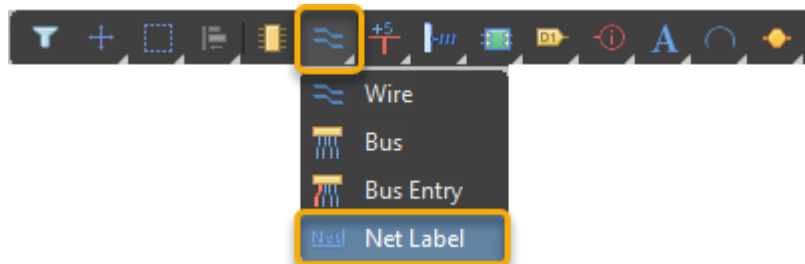

Figure 19. Net Label
15. Now place **Net Labels** using the **Active Bar** (or by going to **Place » Net Label** or use the shortcuts **P » N**), see *Figure 19*.